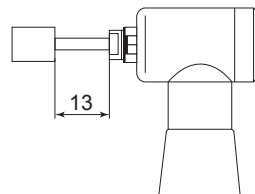

Fig. 1
- ① This Attachment is designed for hand use. Never install this Attachment or any hand tool on a machine such as a special purpose machine, NC lathe or mill.
- ② Do not exceed the " Maximum Allowable Motor Rotation Speed " (Refer to " 2 - 1 Specifications ").
- ③ When sensing that the Attachment and motor are overheated during operation, reduce the working force or the motor rotation speed, or stop the operation until the Attachment cools down before restarting.
- ④ Do not touch the cutting tool while it is rotating. It is very dangerous.
- ⑤ Always wear safety glasses, dust mask and use a protective cover.
- ⑥ When installing a cutting tool, tighten the collet chuck correctly and recheck the collet chuck before use. Do not overtighten the collet chuck. This may cause damage to the spindle.
- ⑦ Do not exceed 13mm of overhang for mounted grindstones as shown in Fig. 1. If the overhang must exceed 13mm, reduce the motor speed in accordance with Table 1.
- ⑧ Do not use bent, broken, chipped, out of round or sub-standard cutting tools as they may cause shatter or explode. The cutting tool with cracked, bended may cause some injury to operator. When using a new cutting tool, rotate it in a low speed and increase speed gradually for safety.
- ⑨ Always operate cutting tools within the cutting tool manufacturer's recommended speed limits. Use of a cutting tool higher than the manufacturer's recommended speed limits could cause damage to the spindle and injury to the operator.
- ⑩ Do not apply excessive force. This may cause tool slippage, tool damage, injury to the operator, loss of concentricity and precision.